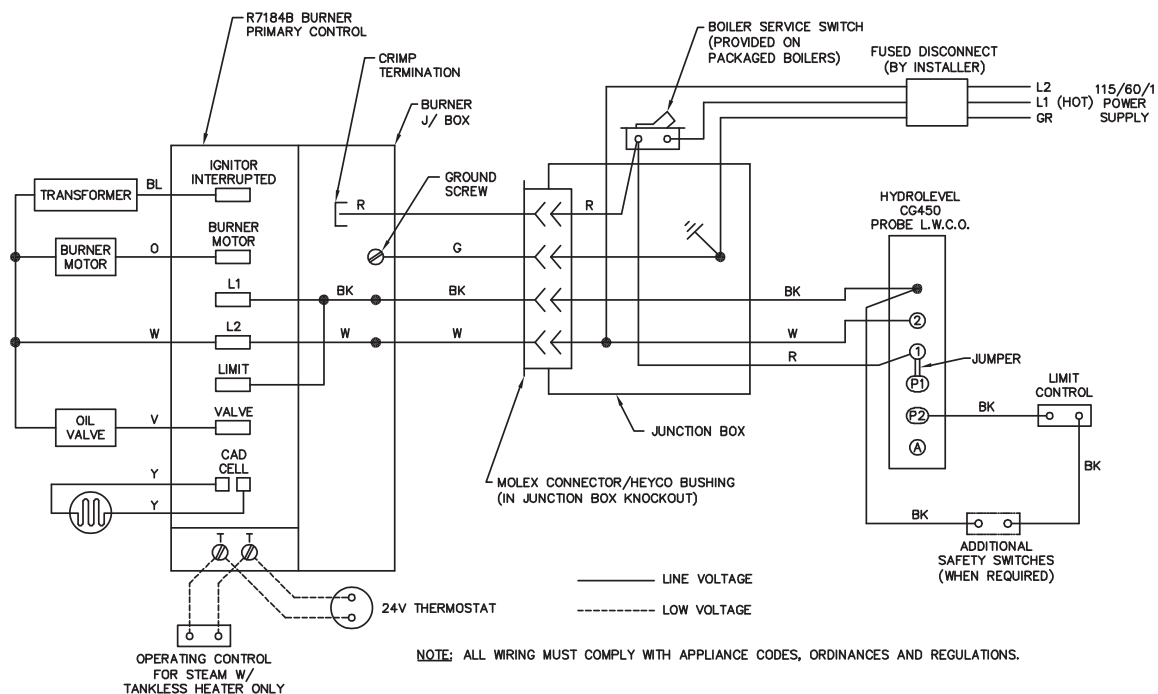

Figure 4.7: Steam with Probe Low Water Cut-off
- Figure 4.7 - Steam Boilers with Probe LWCO